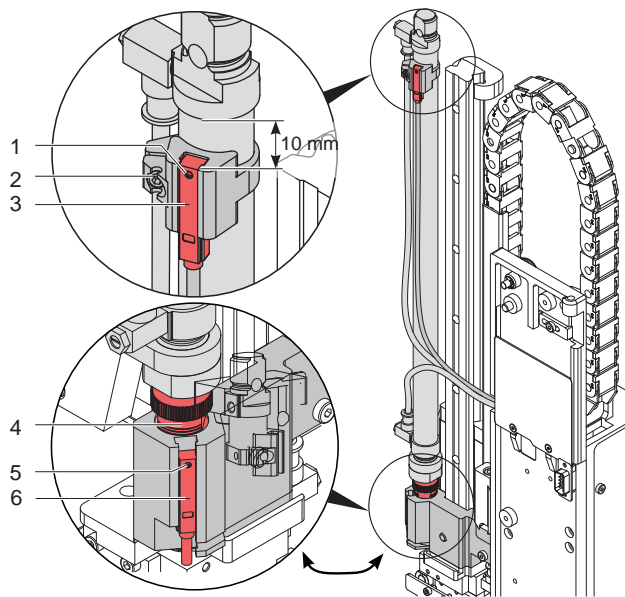

Fig. 31 Sensors on cylinder Z
1. Loosen screw (1) of sensor "Start Position" (3) and move the sensor so that the top edge of the sensor sits comfortably in the sensor holder.
4. Loosen screw (2) of the sensor holder.
5. Position the sensor so that it triggers securely, with lit up LED, when cylinder Z is completely contracted. This is achieved with the top edge of the sensor being about 10 mm from the top edge of the connection ring. (Fig. 31)
6. Tighten screw (2).